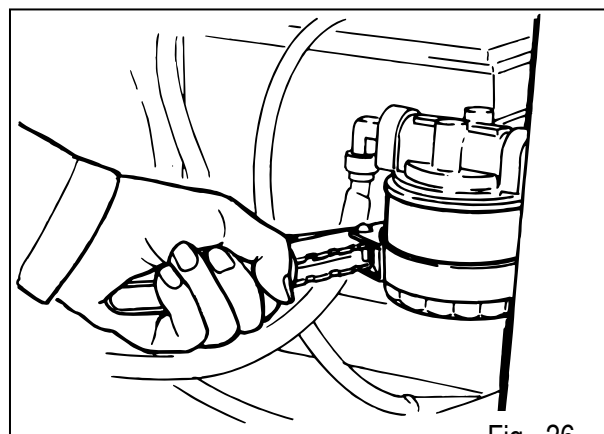

Fig. 26
a) Oil filter replacement (Fig.26)